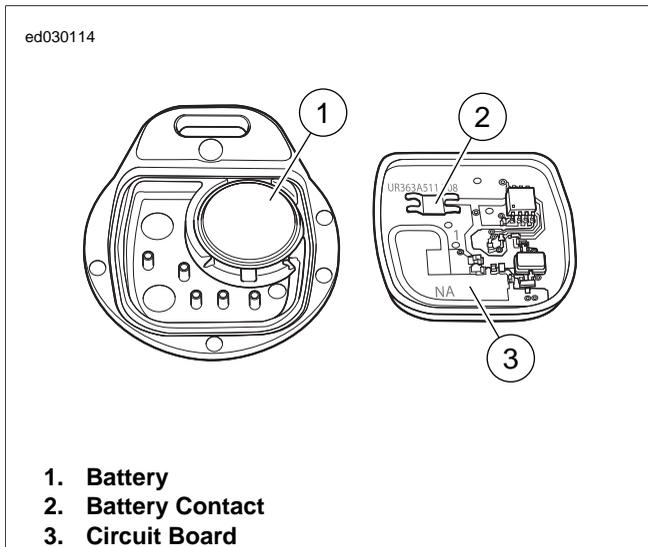

Figure E-29. Open Key Fob: TSSM
1. See Figure E-29. Open the key fob case.
2. Replace battery (1).
3. Align case and circuit board (3) as shown. Snap case halves together.